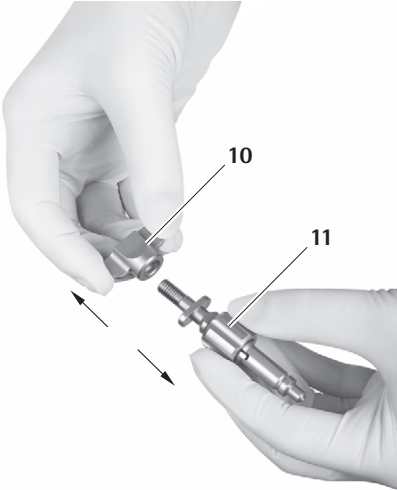

Fig. 17
- ▶ Unscrew the wing nut **10** of the holding arm adapter **11**, see Fig. 17.